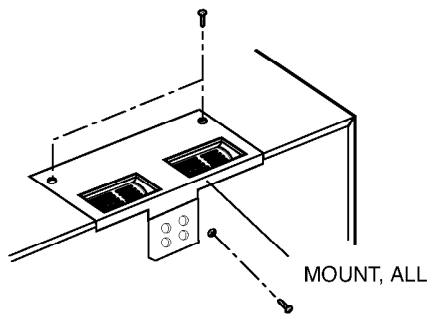

Figure 19
- (2) Remove the two screws securing the MOUNT, ALL and one screw securing the ventilation fan ASS'Y. (See Figure 19)